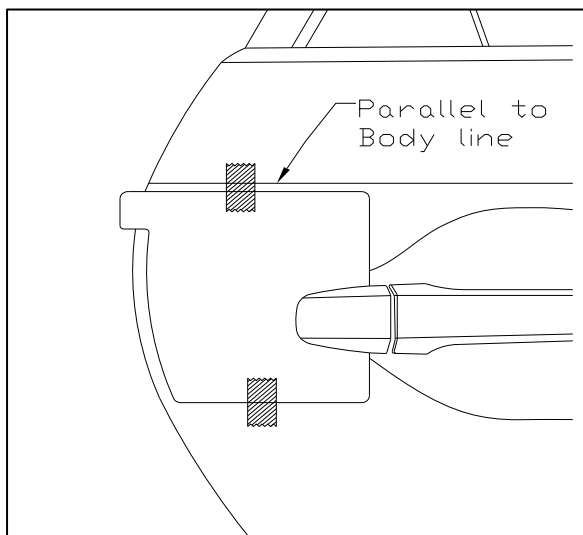

Fig. 1-8
- (l) Select rear door template and fit notch around door handle. Adjust as needed to ensure it is parallel to body line directly above the template. If needed, tape into place using painter's masking tape. (Fig 1-8)